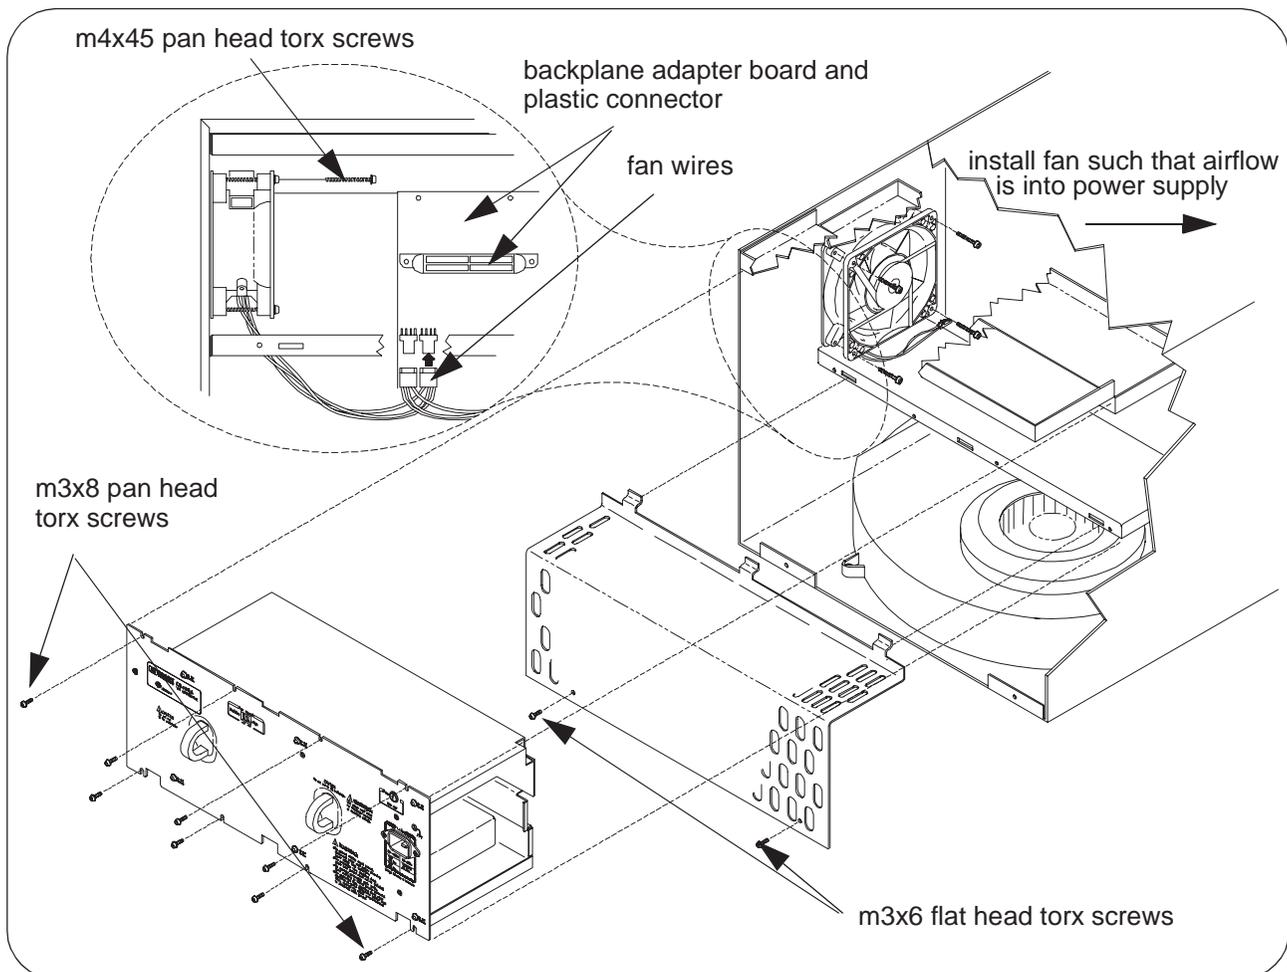

Figure 3-3. Removing the Power Supply Fan Wires.
2. Remove the impeller cover by removing the two m3x6 flat head torx screws and lifting the cover off (Figure 3-3). (Removing the impeller cover provides easier access to the fan wires.)
5. Disconnect the (power supply) fan wires from the adapter board by gently pulling down on the wire housing (Figure 3-3). Note the position of the housing for re-installation.